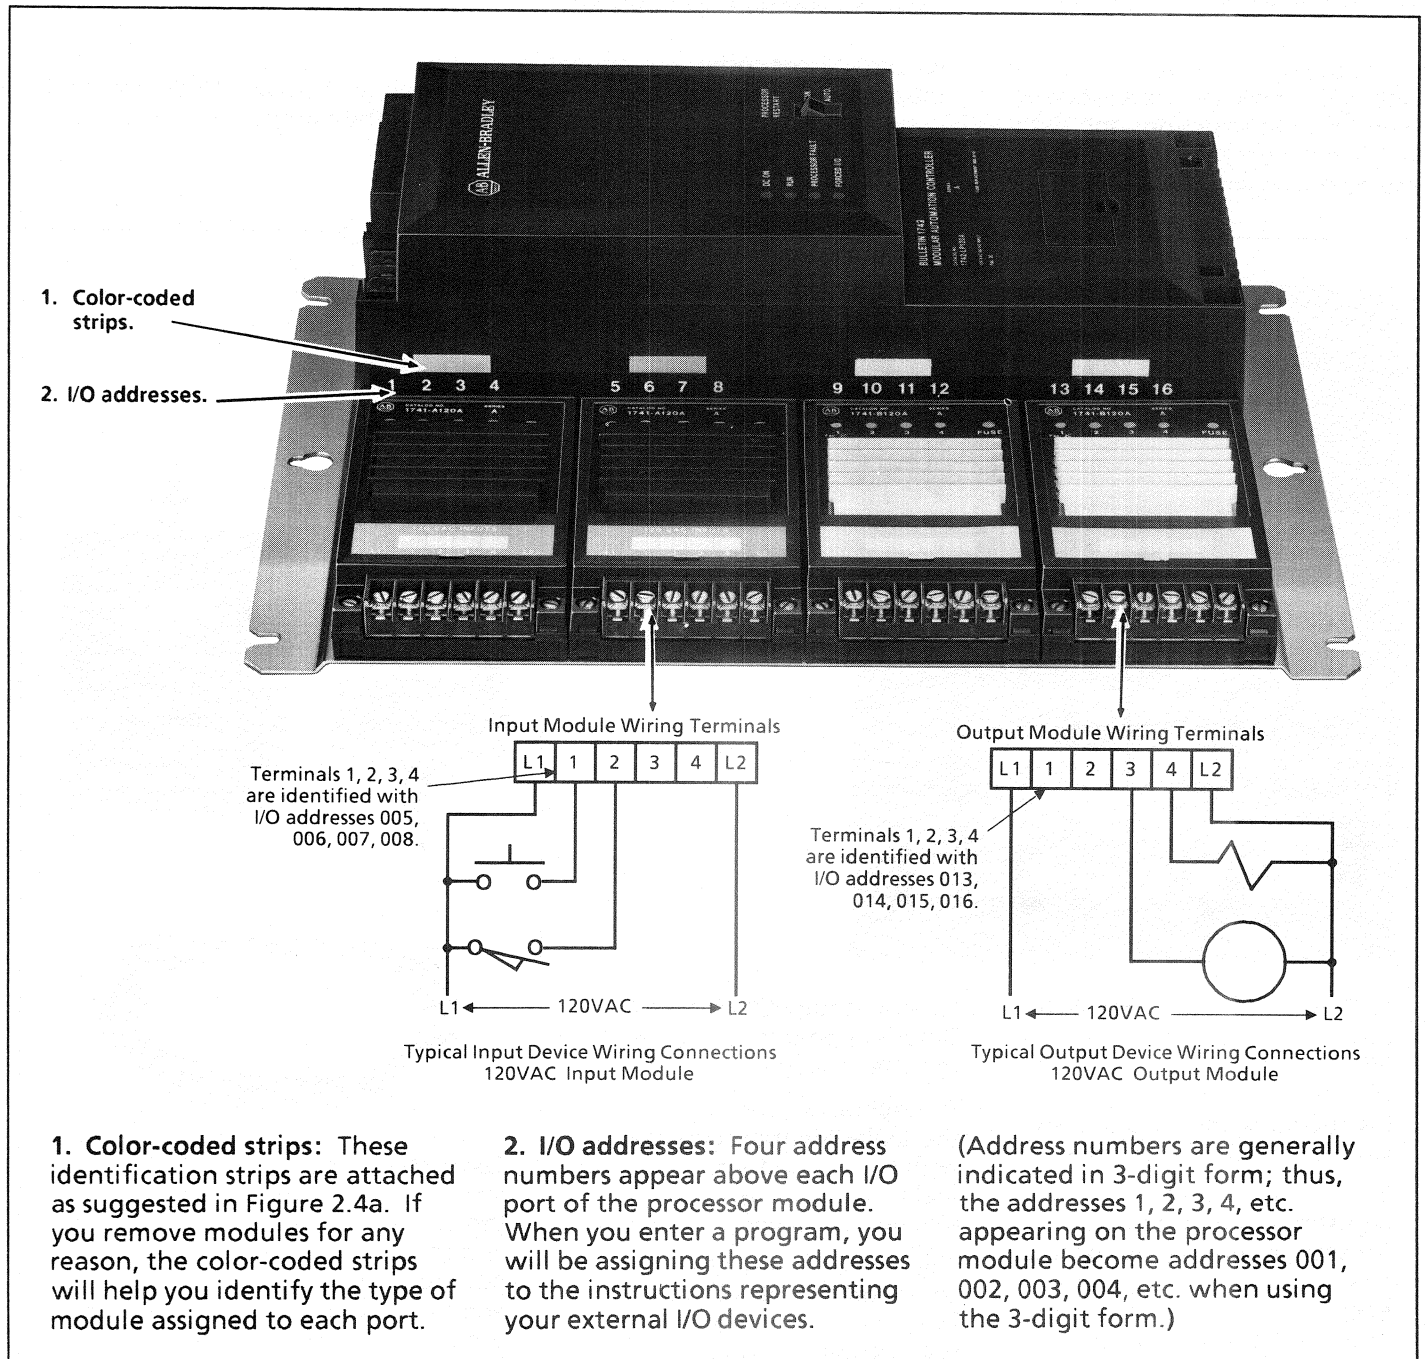

Figure 2.4b Controller having two input modules and two output modules.
Each module is supplied with a correspondingly color-coded identification strip. We suggest that you attach this self-adhesive strip to the processor module, directly above the address numbers of the assigned I/O port (see Figure 2.4b). Then, if you remove the module for any reason, the color of the strip will help you identify the type of module assigned to the port.
4. Wiring terminals: Connect external input and output devices to terminals 1-2-3-4. Connect the I/O circuit source voltage to the remaining two terminals. (Typical connections are shown in Figure 2.4b.)
Figure 2.4b shows a controller consisting of a processor module, two input modules, and two output modules secured to a mounting plate. The controller is shown in a horizontal position to more clearly illustrate the plug-in I/O modules. Typical wiring connections for 120VAC input and output modules are shown.